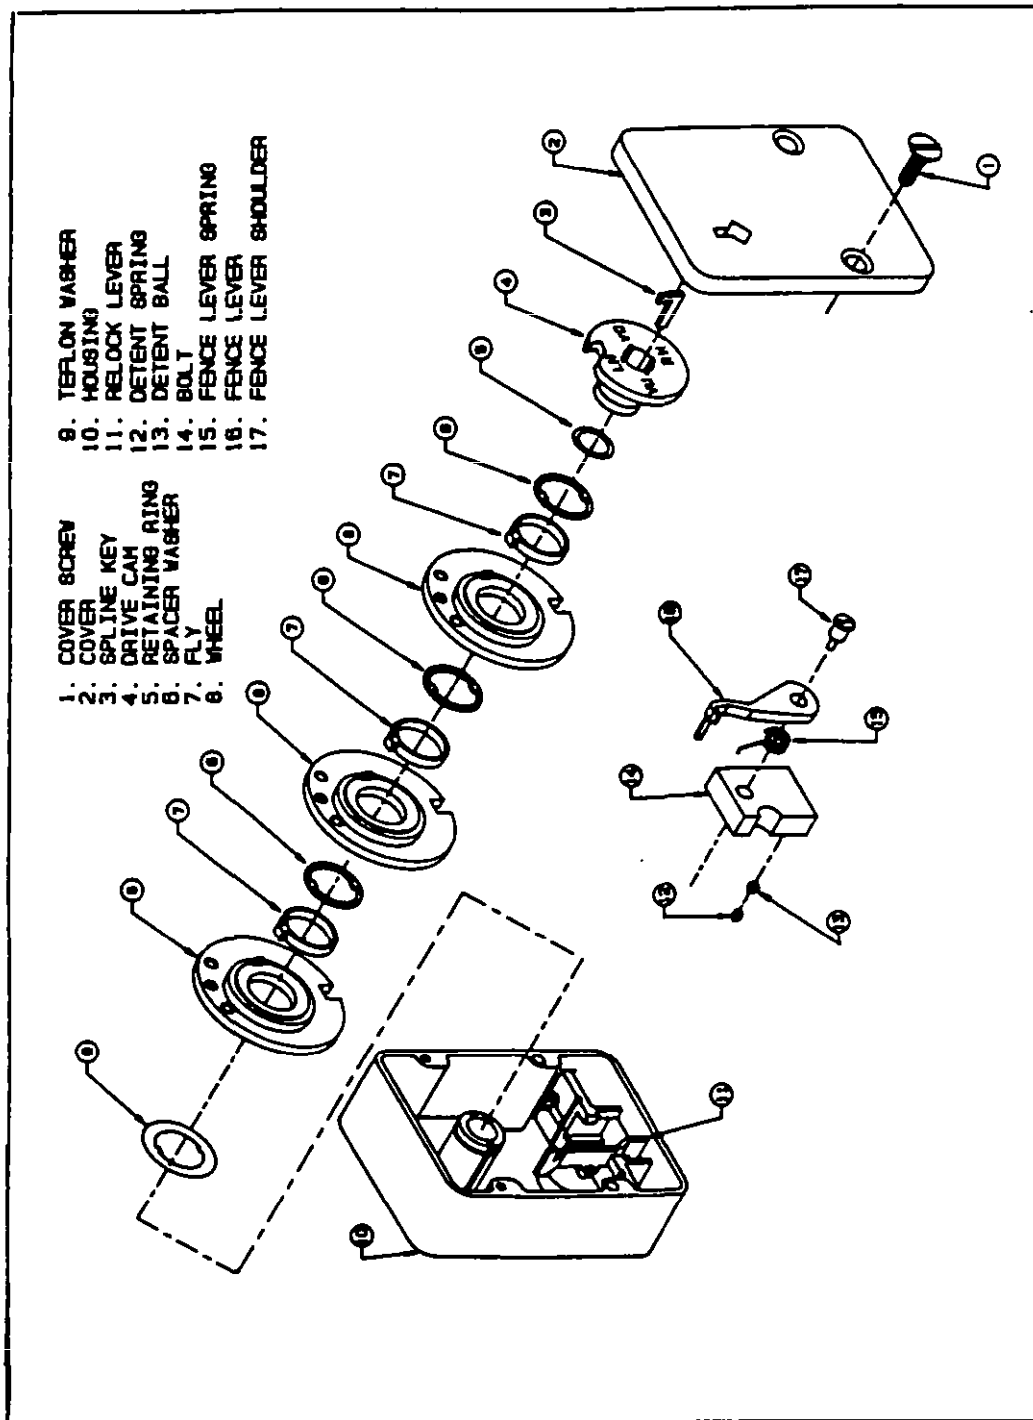

Figure 15
m) Screw the drive cam onto spindle until snug, then back off until the appropriate slot in the drive cam lines up with the keyway of the spindle. Drive cam slots are labeled RH (right-hand), LH (left-hand), VU (vertical-up), and VD (vertical-down) for the four different mounting positions (reference Figures 15 and 16).